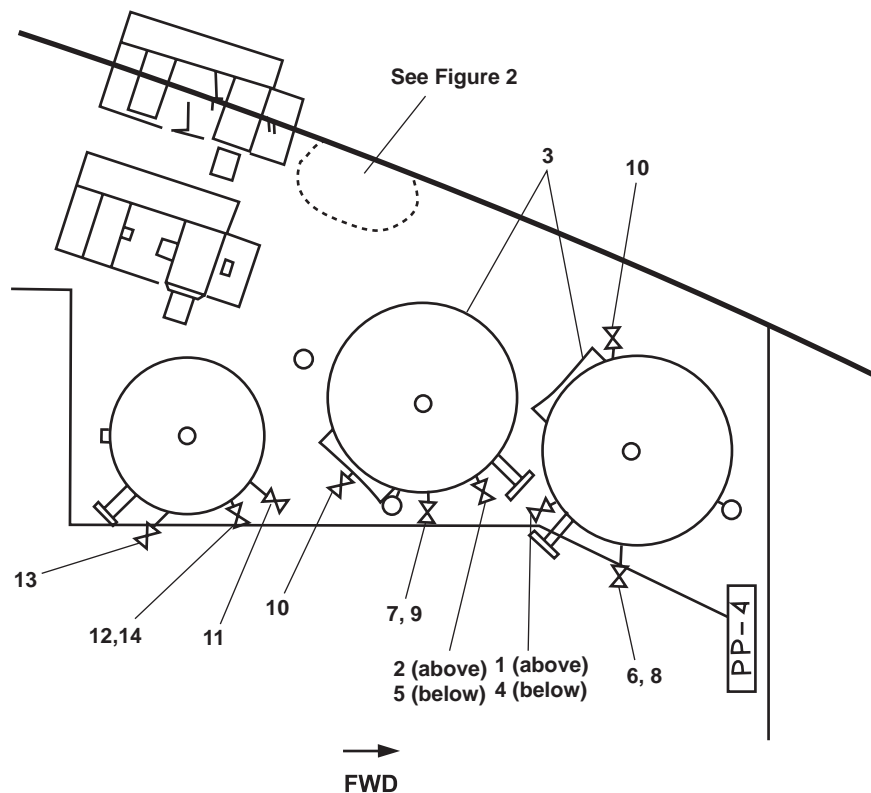

Figure 1. Compressed Air System Component Locations
1. OPEN valves CA-4, STG AIR TK OUT (figure 1, item 1) and CA-3, STG AIR TK OUT (figure 1, item 2) at the starting air receivers (figure 1, item 3).
4. OPEN valves CA-11, STG AIR TK INL (figure 1, item 4) and CA-12, STG AIR TK INL (figure 1, item 5).
5. OPEN valves CA-50, AUTO DR (figure 1, item 6) and CA-49, AUTO DR (figure 1, item 7).
6. Ensure that valves CA-46 and CA-47, STG AIR TK DR (figure 1, items 8 and 9) are CLOSED.
7. Ensure that valves CA-98 and CA-99 (figure 1, item 10) are OPEN.